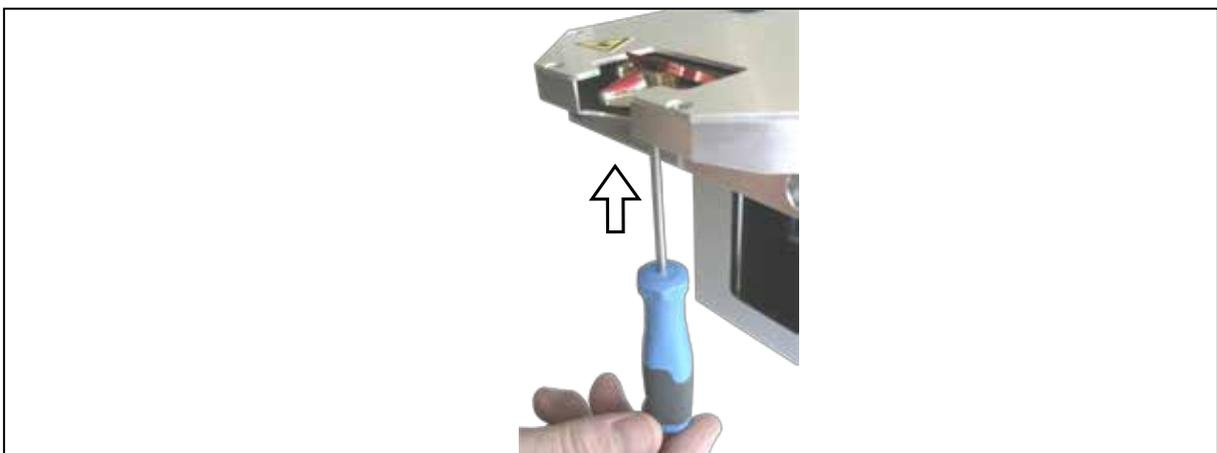

Fig. 15.3: Pushing out the measurement tip
5. The measurement tip and the retaining plate have to be pushed out of the rotational disc carefully through the housing bore. This must be effected from below and by means of a screwdriver. (please see Fig. 15.3).